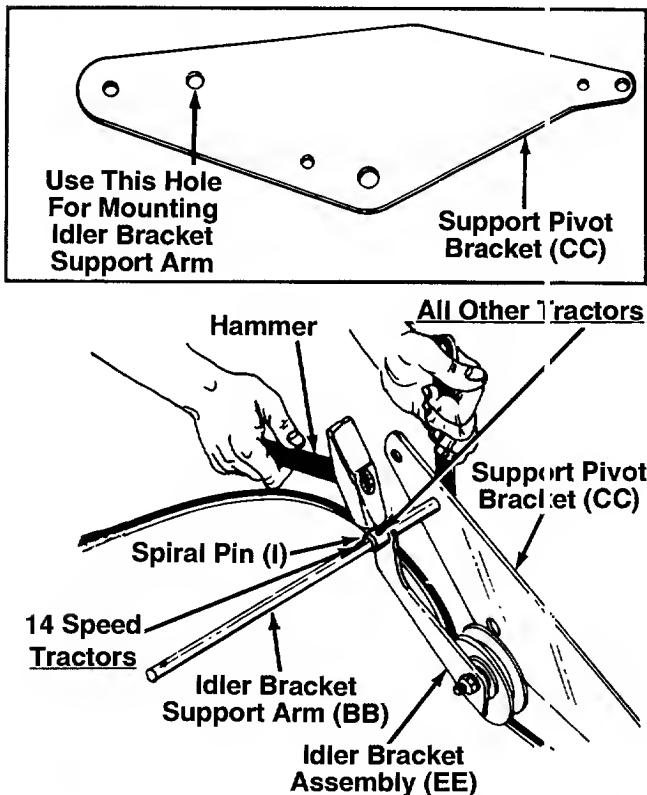

FIGURE 3.
2. Preassemble the idler bracket support arm (BB) to one support pivot bracket (CC) and idler bracket assembly (EE) as follows.
- A. Place the idler bracket support arm down through the hole in support pivot bracket shown in figure 3. Then slide the idler bracket assembly over the idler bracket support arm.
- B. Secure the idler bracket assembly to the idler bracket support arm using spiral pin (I), using the hole in the idler bracket support arm as follows. See figure 3.